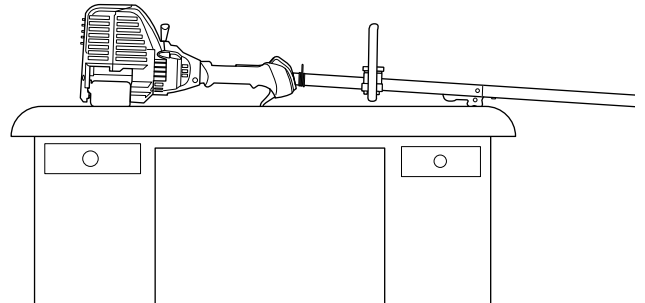

Fig. 11
- Set the unit on a flat, level surface**, such as a workbench or table. The cutting head shield should hang over the edge so that the engine is level (Fig. 11).